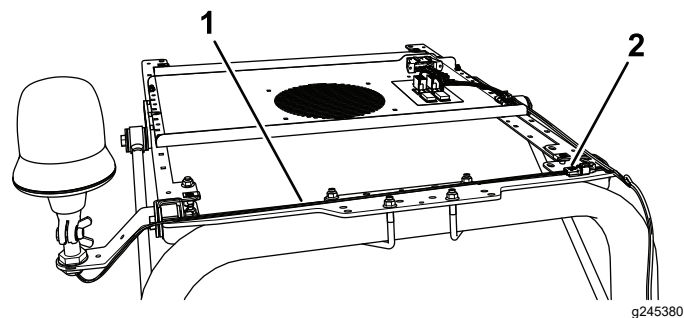

Figure 10
7. Plug the connector on the beacon harness into the connector on the switch-panel harness (Figure 10).
8. Route the beacon harness as shown in Figure 10 and secure with cable ties.